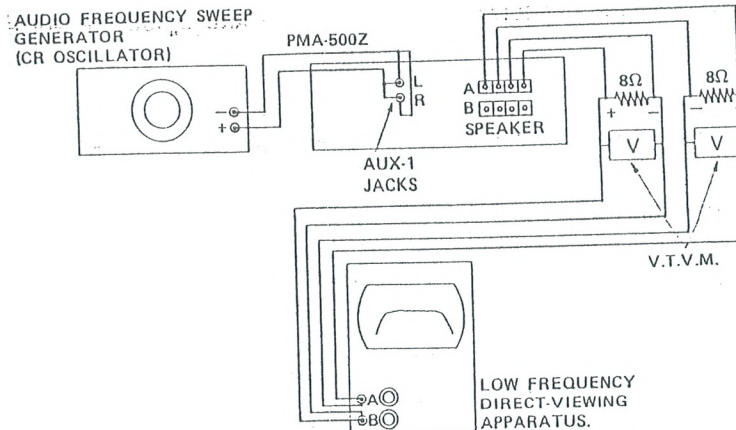

Fig. 22
- B. Figure 22 shows for testing AUX-1 frequency characteristic.